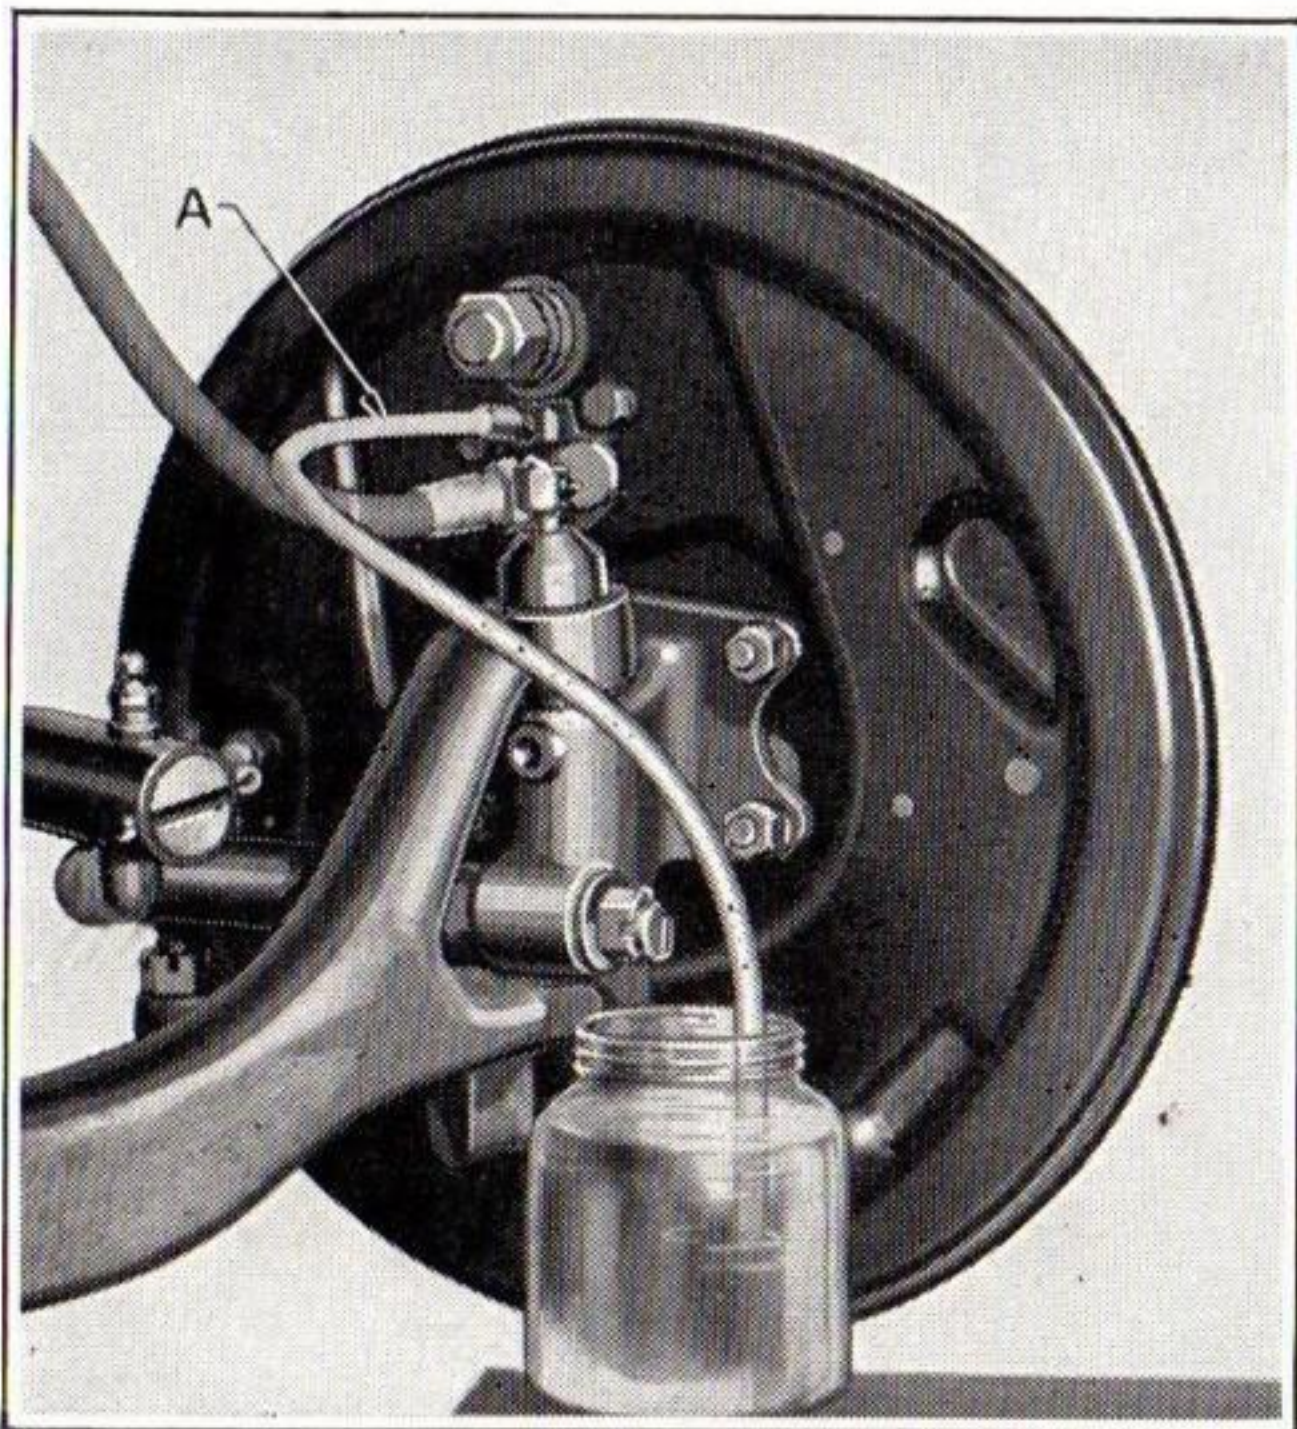

Figure 26
- (1) Remove screw (D), Figure 27, and screw the end of the bleeder tube (A), Figure 26, in its place and allow end of tube to hang in a jar partially filled with liquid.